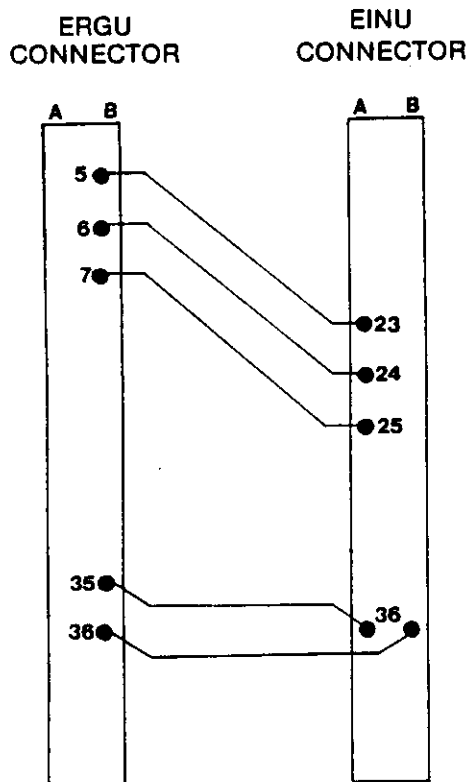

FIGURE 5 - ERGU/EINU BACKPLANE STRAPS TO BE REMOVED
3.2.1 Referring to Figure 5, locate the five ERGU/EINU connector straps to be removed.